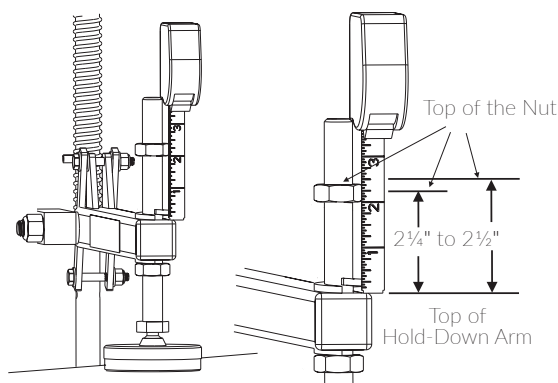

Figure 6-4
- Adjust the top nut, so the top of the nut measures 2¼" to 2½" above the top of the hold-down arm. Once the measurement has been set, DO NOT adjust the top nut or the stationary nut. *See Figure 6-4.*